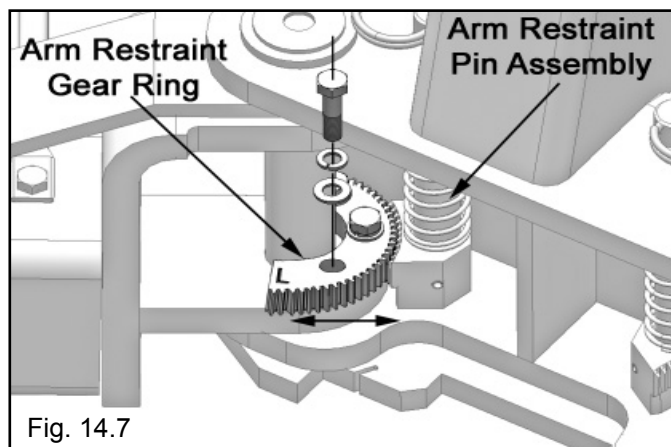

Fig. 14.7
- Loosen the Arm Restraint Gear Ring Bolts and adjust the Arm Restraint Gears so that the Teeth on the Gear Ring mesh smoothly with the teeth on the gears of the Arm Restraint Pin. (See Fig. 14.7)